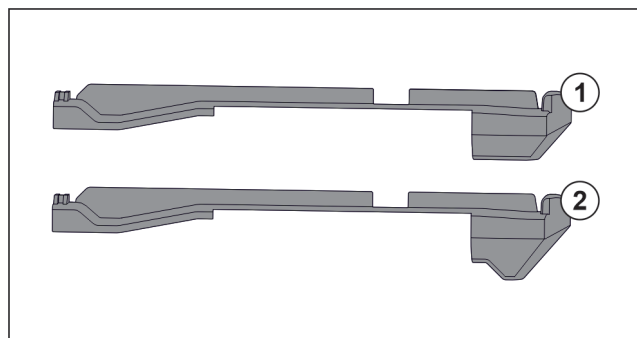

Fig. 62 Comparing attachments
There are two different attachments in the appliance. The attachment above the lowest drawer Fig. 62 (2) has a three-cornered edge. All other attachments Fig. 62 (1) have a straight edge.
- Fit attachment Fig. 62 (2) with the three-cornered edge above the lowest drawer.
- Fit attachment Fig. 62 (1) with straight edge in all other positions.